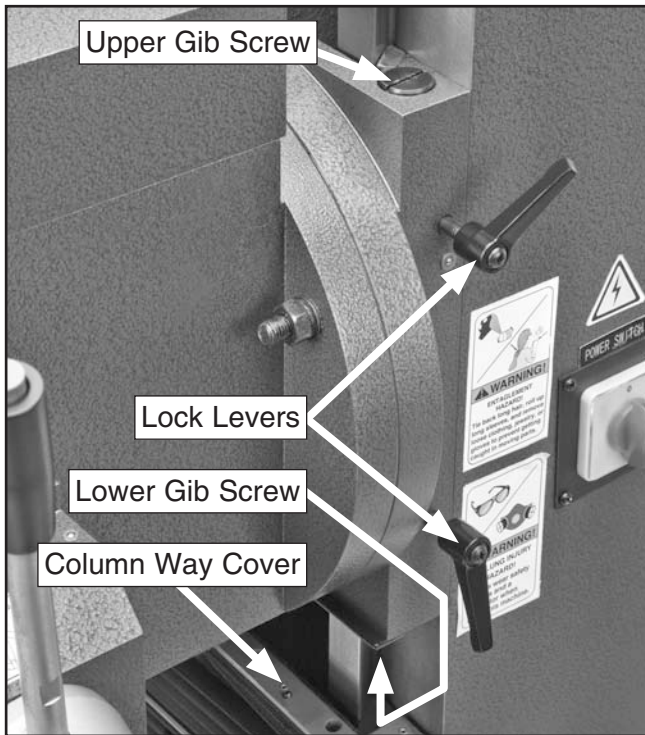

Figure 46. Headstock gib adjustment.
2. Loosen the headstock lock levers shown in **Figure 46**.
3. Remove the column way cover (see **Figure 46**) for lower column leadscrew access.